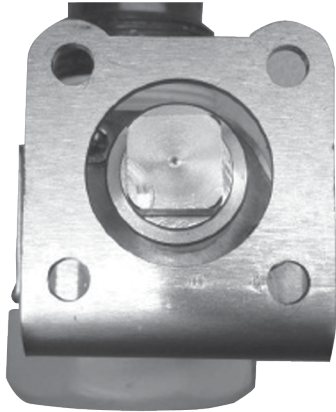

Figure 3. Coupler Installation For Size 1-1/4-inch Rotary Actuator
6. With the coupler and stub shaft pinned together and the valve cam touching the valve stem turn the coupling counter clockwise 1/8 of a turn, or until the flat of the coupling is square with the valve (see Figure 3).